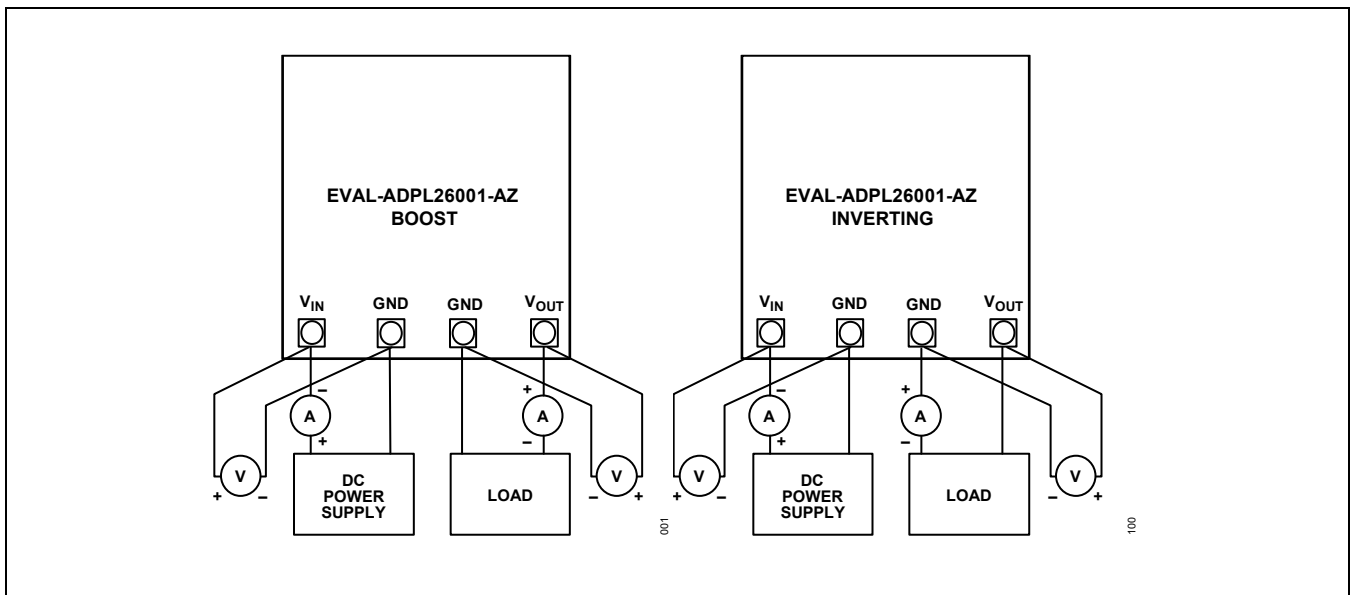

Figure 1. EVAL-ADPL26001-AZ Evaluation Board Connections
2. Connect the power supply (with power off), load, and meters as shown in Figure 1.